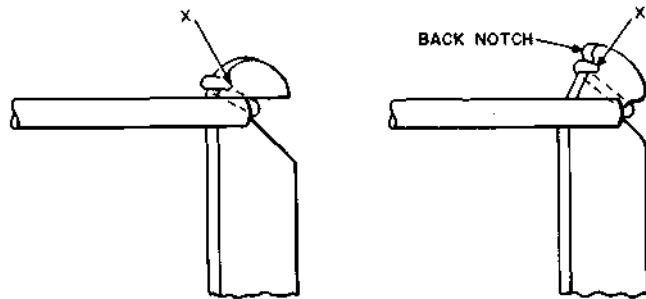

Fig. 8—Termination of Wire on Vertical Terminal Having a Single Notch
8.11 To terminate a wire on a terminal which is in a vertical position (such as horizontal IDF) having a single notch (either with or without back notch) such as those on a 35- or similar type terminal strip shown in Fig. 8, bring the wire along the left side of the terminal, through the notch, along the right side of the terminal, and across the back, or through the back notch where provided. Break the excess wire at point "X". 20-gauge wire may be cut instead of broken.